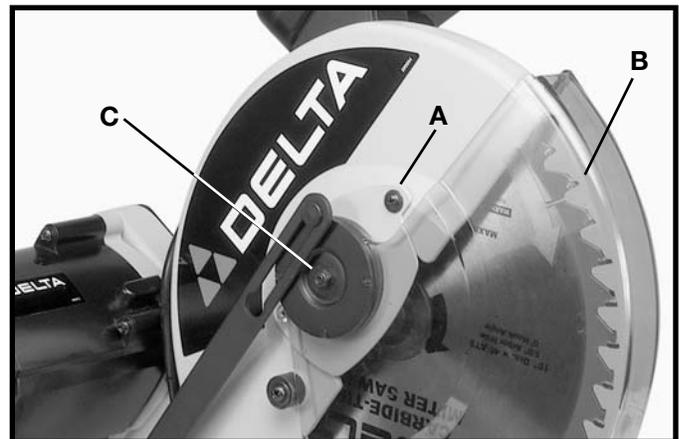
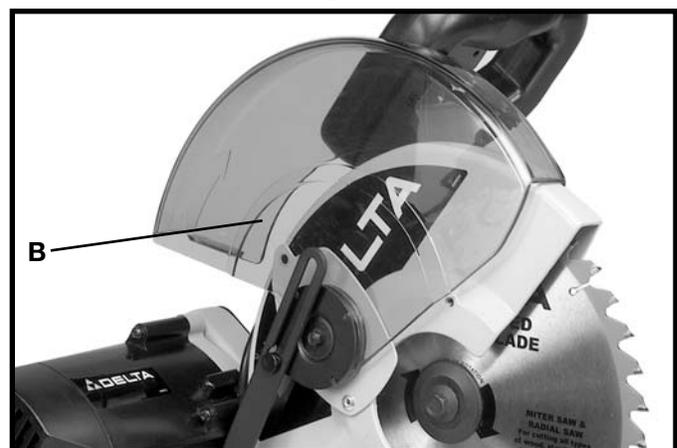

Fig. 45
Fig. 46
2. Remove the screw (A) Fig. 45, and rotate the cover (B) to the rear (Fig. 46).
1. After an extended period of time, the movable blade guard (B) Fig. 45 might move erratically when the cuttinghead is lowered. This can be easily corrected by slightly tightening the nut (C) Fig. 45 until the lower blade guard moves smoothly.
2. As soon as the cuttinghead begins to lower, the lower blade guard (B) Fig. 45 should begin to move. If it does not, loosen the nut (C) slightly until the blade guard (B) moves smoothly.